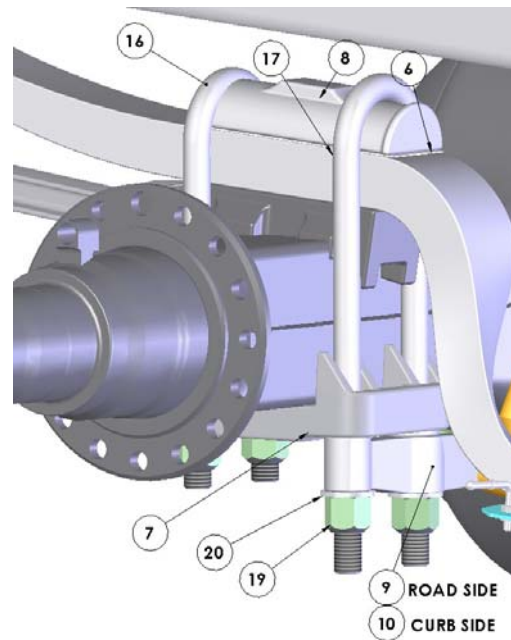

**Figure 6**
**9. Remove lower shock bolt (Item 12), flat washers (Item 13), and nut (Item 14). Retain for re-assembly. (Figure 6)**
**31. Install lower shock bolt (Item 12), washers (Item 13), and nut (Item 14). Torque to 150-175 ft-lbs (See Figure 6)**